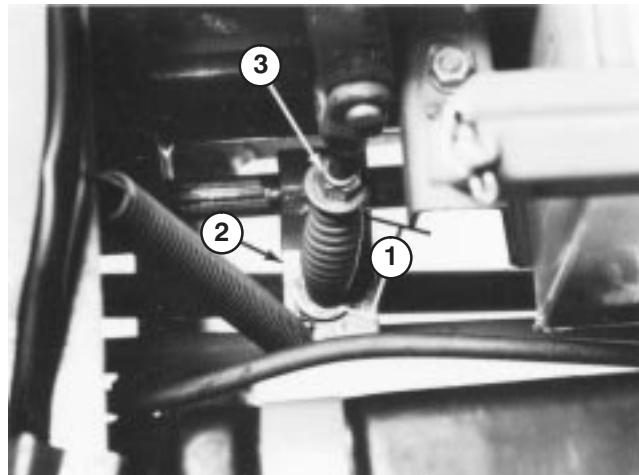

Figure 44
3. Measure length of PTO spring between flat-washers (Fig. 44). There should be a spring length of 3-3/16 inches (81 mm).
4. To adjust, hold head of adjusting screw with wrench (under PTO actuating arm) and turn locknut (Fig. 44).